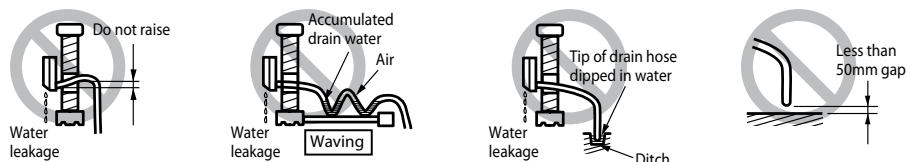

Figure 17: Incorrect Condensate Pipe Installation
5. Ensure the condensate drain pipe is not configured as shown in Figure 17..